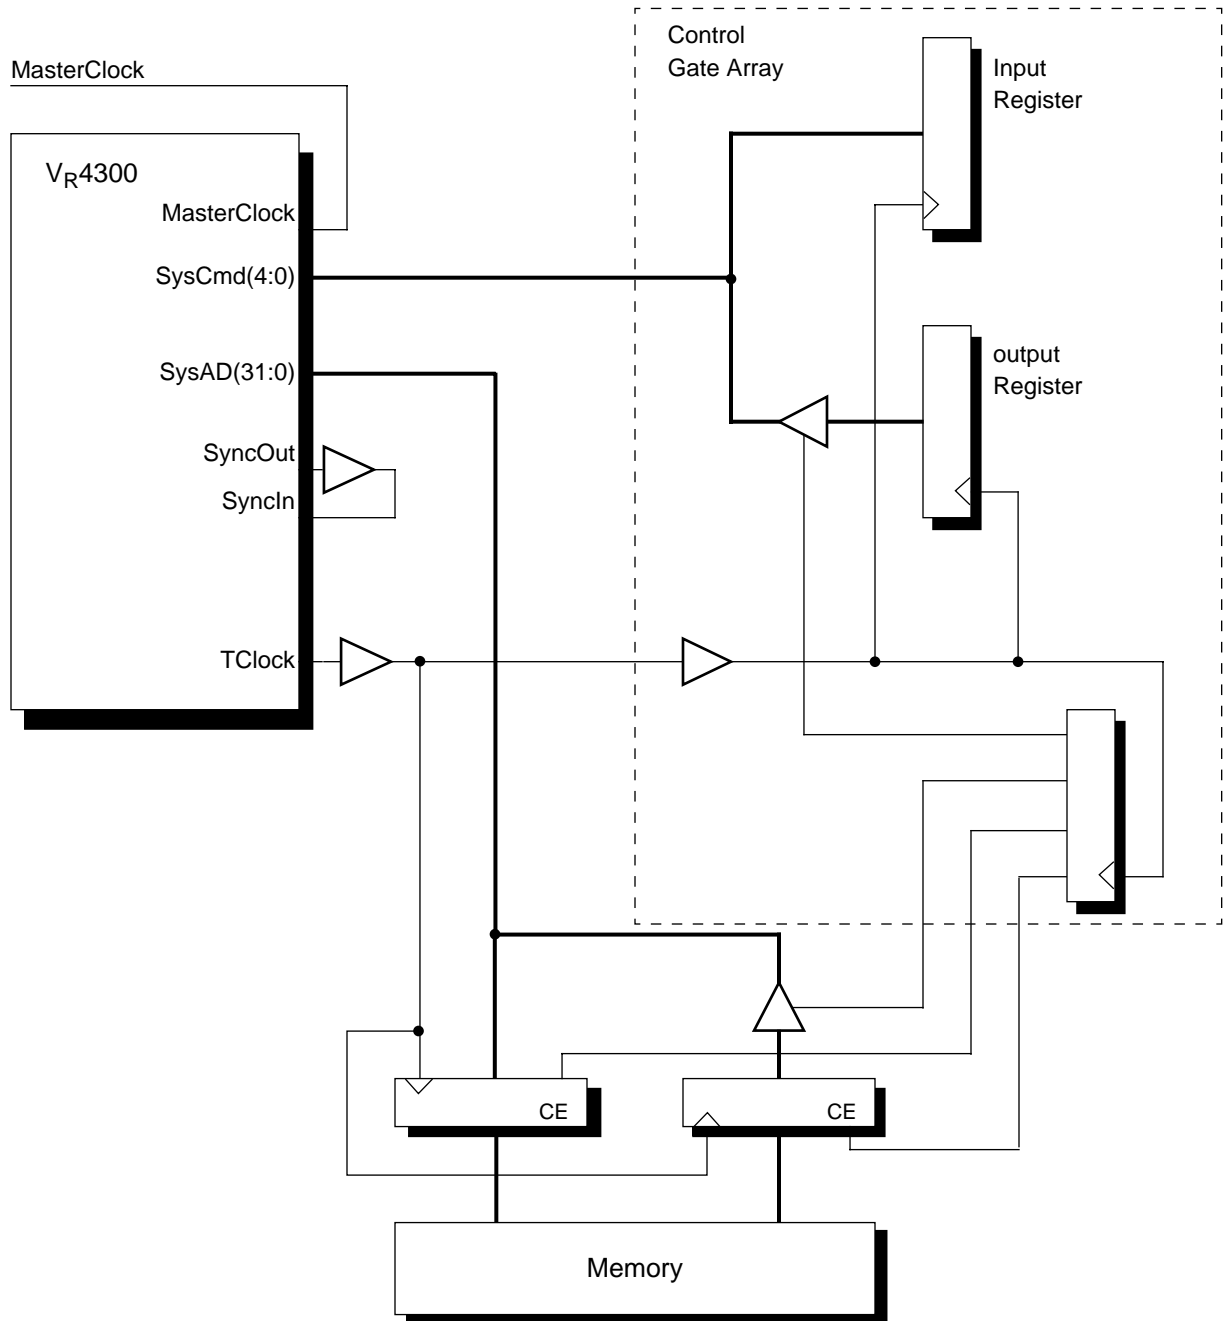

Figure 10-7 Gate-Array and CMOS System without Phase Lock, Using the  $V_R4300$  Processor
**SyncOut** must be connected to **SyncIn** either directly, or through an external buffer. The processor can compensate for both output driver and input buffer delays when aligning **SyncIn** with **MasterClock**. When **SyncOut** is connected to **SyncIn** through an external buffer as illustrated in Figure 10-7, delay caused by external buffers connected to clock outputs can also be compensated.
Figure 10-7 is a block diagram of a system without phase lock, employing the  $V_{\text{R4300}}$  processor and an external agent composed of both a gate array and CMOS discrete devices.